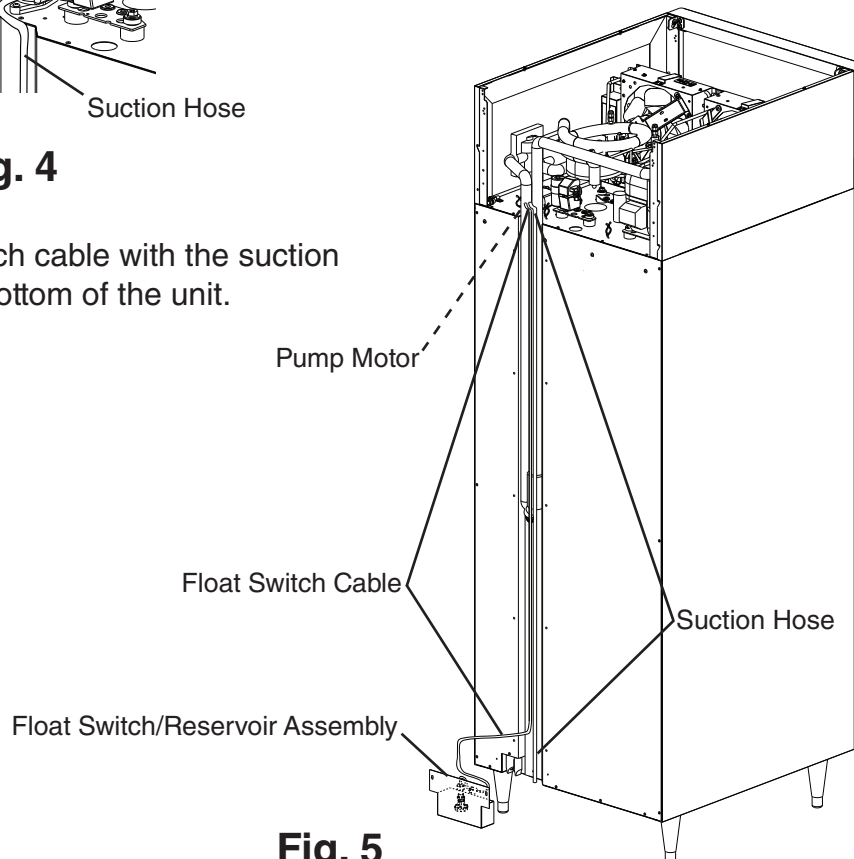

Fig. 5
- 4) Route the float switch cable with the suction hose down to the bottom of the unit. See Fig. 5.